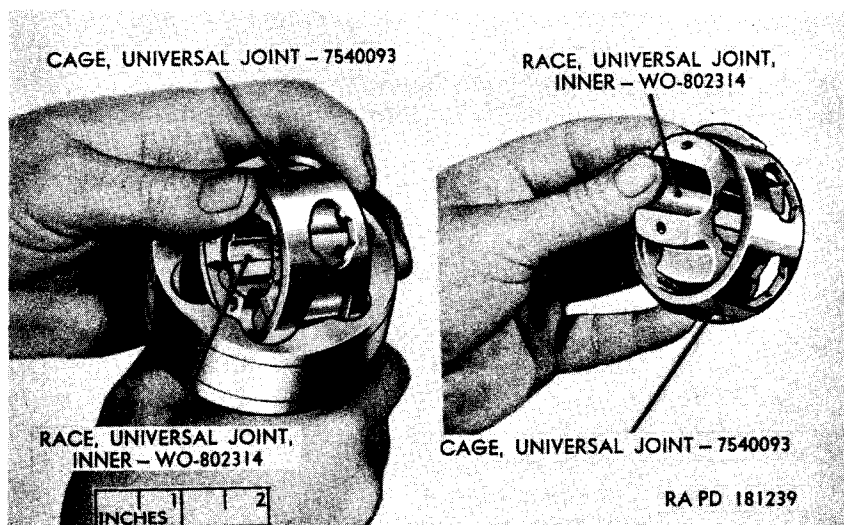

Figure 103. Removing front axle universal joint cage.
Turn the universal joint cage in the outer axle shaft so that the 2 larger elongated holes of cage are between the 2 bosses in outer axle shaft as shown in figure 103. Lift the universal joint cage and inner universal joint race from outer axle shaft.
Turn the inner universal joint race in the universal joint cage so that 1 of the bosses on the inner universal joint race can be dropped into 1 of the 2 elongated holes in universal joint cage as shown in figure 103. Separate inner universal joint race from universal joint cage.
- (1) *Install inner universal joint race in universal joint cage* (fig. 103). Position universal joint cage horizontally. Hold inner universal joint race vertically and insert it in universal joint cage, dropping one of the race bosses into one of the larger elongated holes of the cage. When inner universal joint race is in universal joint cage, turn race so that it is entirely in cage.
- (2) *Install inner universal joint race and universal joint cage in outer axle shaft* (fig. 103). Aline the two larger elongated